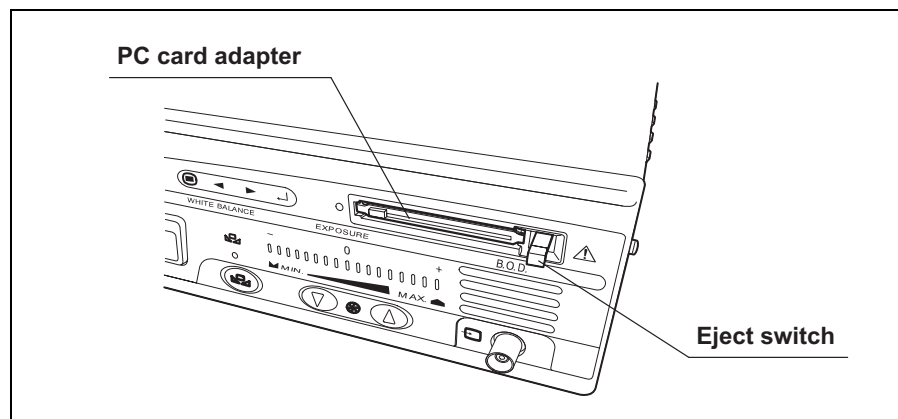

Figure 3.20
1. Hold the OTV-S7V stationary with one hand and push the eject switch. Then, the eject switch is popped up (see Figure 3.20).